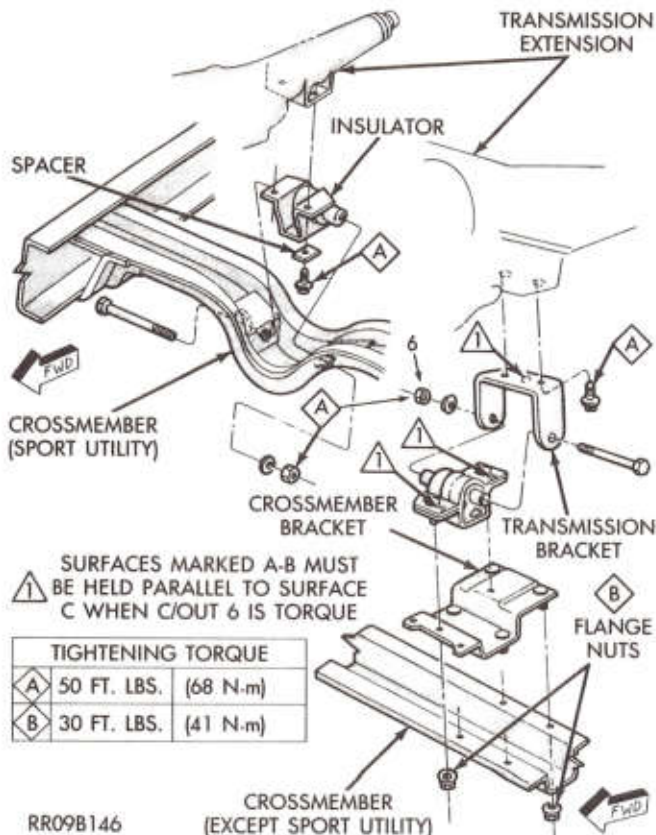

Fig. 2—Engine Mount, Rear
ENGINE REAR SUPPORT (Figs. 2 and 3)
- (1) With vehicle on hoist, position transmission jack and raise rear of transmission and engine **slightly**.
- (2) Remove rear mount through-bolt from frame crossmember or bracket. (Fig. 2).
- (3) Remove insulator from bottom face of transmission extension housing (sport utility) or from crossmember bracket, (except sport utility).
- (1) Install insulator on transmission extension housing; torque screws to 50 ft. lb. (68 N-m).
- (2) Install through bolt through crossmember and mount or through bracket and mount. Torque bolts to specifications. (Fig. 2).
- (3) Remove transmission jack.